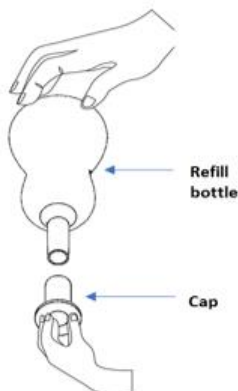

Figure 7
2. Rotate the cap to open the tube of one bottle/tube (**Figure 7**). (**DO NOT** throw away the cap).